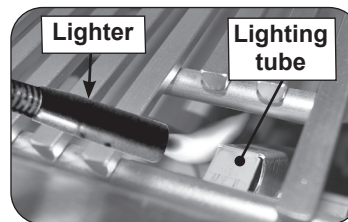

Fig. 31-2 Manual lighting via lighting tube
2. Insert either a burning long-barrel butane lighter or a burning long-stem match through the cooking grid opening to the top of the lighting tube (see Fig. 31-2). For back burners, power burners, or infrared burners, hold the flame against the surface of the back burner/power burner/infrared burner.